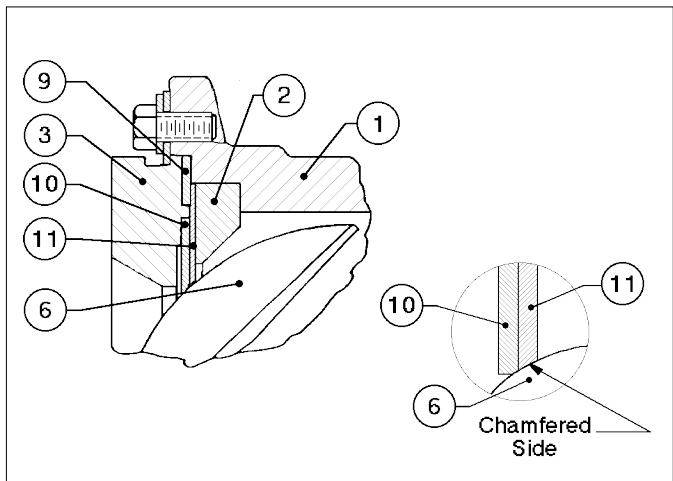

FIGURE 8:
7. With plug (6) in the closed position, install the metal seal (11) with chamfered edge of I.D. toward the plug (6); a note is "etched" on the side of the metal seal (11) stating "TOWARD PLUG". Place seal retainer gasket (9) against body (1) face and metal seal (11). Place soft seal (10) against plug (6) face. See Figure 8 for assembly details.